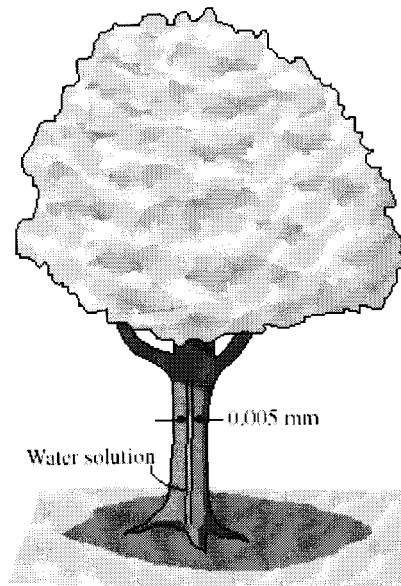

Figure Q1(b)
- (b) Nutrients dissolved in water are carried to upper parts of plants by tines tubes partly because of the capillary effect as shown in **Figure Q1(b)**. The surface tension of water at 20°C is $\sigma_s = 0.073 \text{ N/m}$ with a contact angle of 15°. The density of water can be taken to be 1000 kg/m³. Calculate: